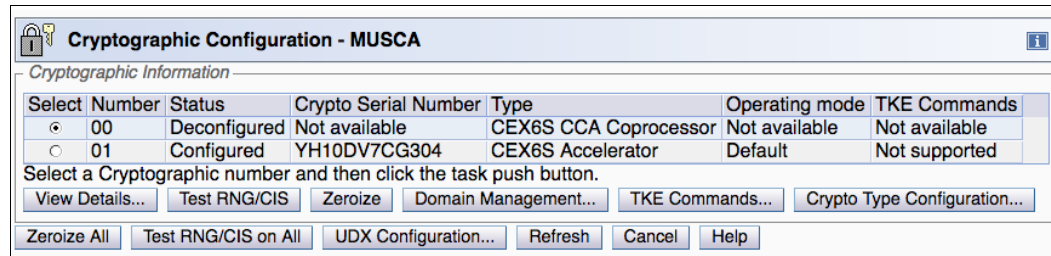

Figure 10-11 Cryptographic Configuration task (unconfigured)
3. Select the number of the cryptographic coprocessor channel (see Figure 10-11) and click **Crypto Type Configuration**.